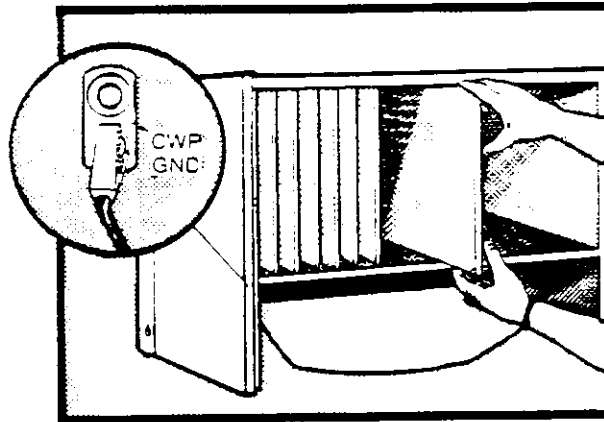

Figure 5-9 PCB INSERTION, EK-824/1232/1648
3.22 Use Figure 5-8 as reference for PCB location. Each PCB is keyed to fit only in its proper slot in the KSU backplane. When inserting the PCBs, the connector edge goes into the slot with the component side of the PCB to the installer's right. Use your thumbs to push the PCBs into the appropriate location (Figure 5-9). Push the PCB until firmly seated. Do not use the heel of your hand or any tool to push a PCB into a connector.